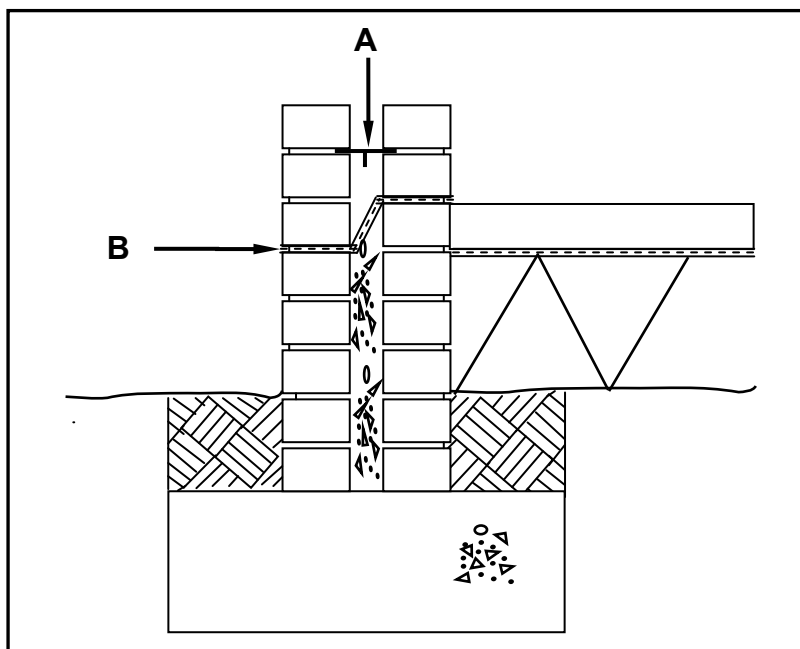

FIGURE 2.4
2.4 FIGURE 2.4 below shows a sectional view of a cavity wall.